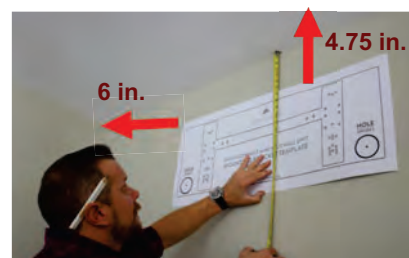

FIG 1.1
- On an exterior wall, at least 6 inches from the ceiling and 4.75 inches from adjacent wall (refer to figure 1.1)